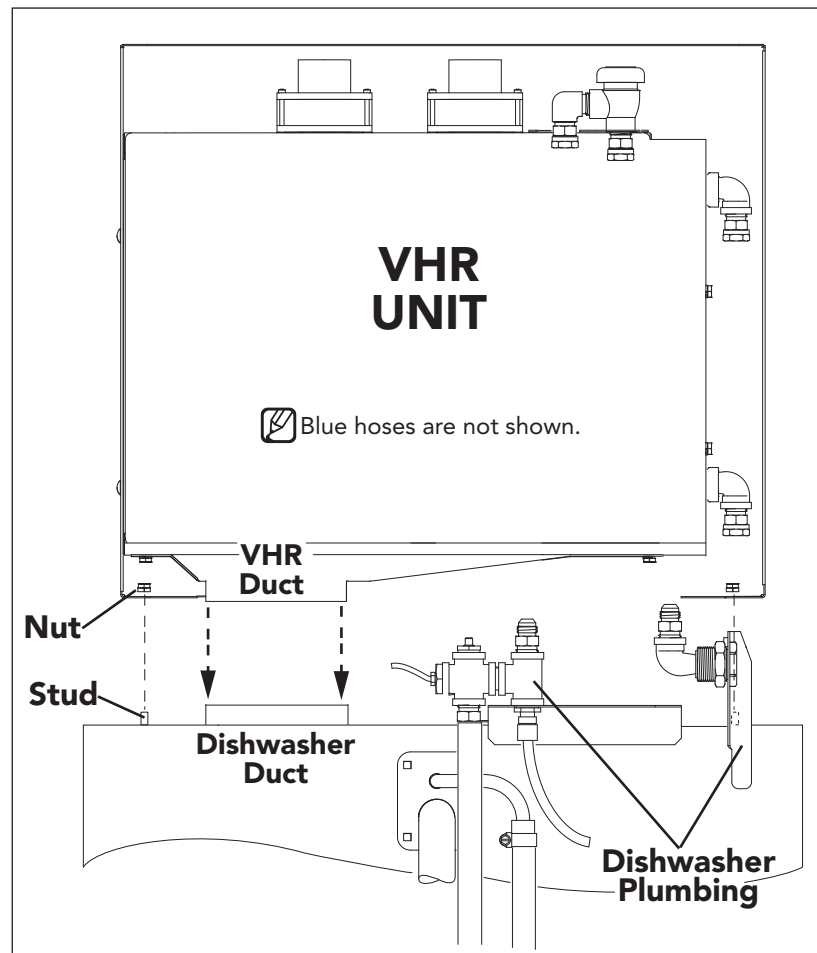

Fig. 3 - The VHR Duct fits inside the Dishwasher Duct.
Refer to Fig. 3 and follow Steps 1- 4 below.
- 3** LIFT THE VHR UNIT ABOVE THE REAR OF THE DISHWASHER HIGH ENOUGH TO CLEAR THE DISHWASHER PLUMBING SHOWN IN FIG. 3.